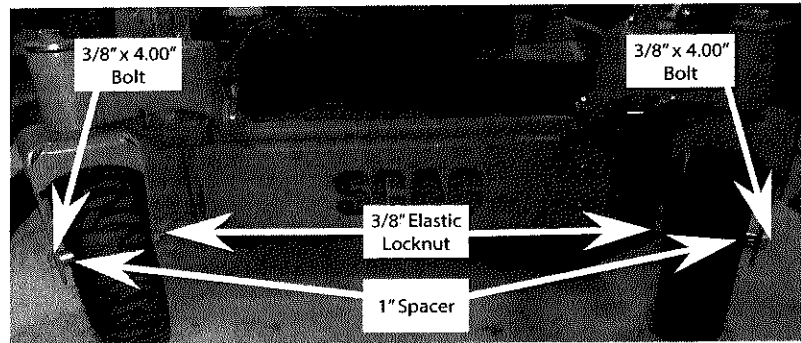

Figure 11
14. Using the front wheel assemblies that were removed in step 3, install the front wheel assemblies between the caster yoke weldments on the swivel caster support weldment. Use a 3/8" x 4.00" bolt, 1" spacer, and 3/8" elastic locknut to install the wheel in the caster yoke weldment as shown in Figure 11, Page 5. Do not overtighten the hardware, the wheels need to move freely.